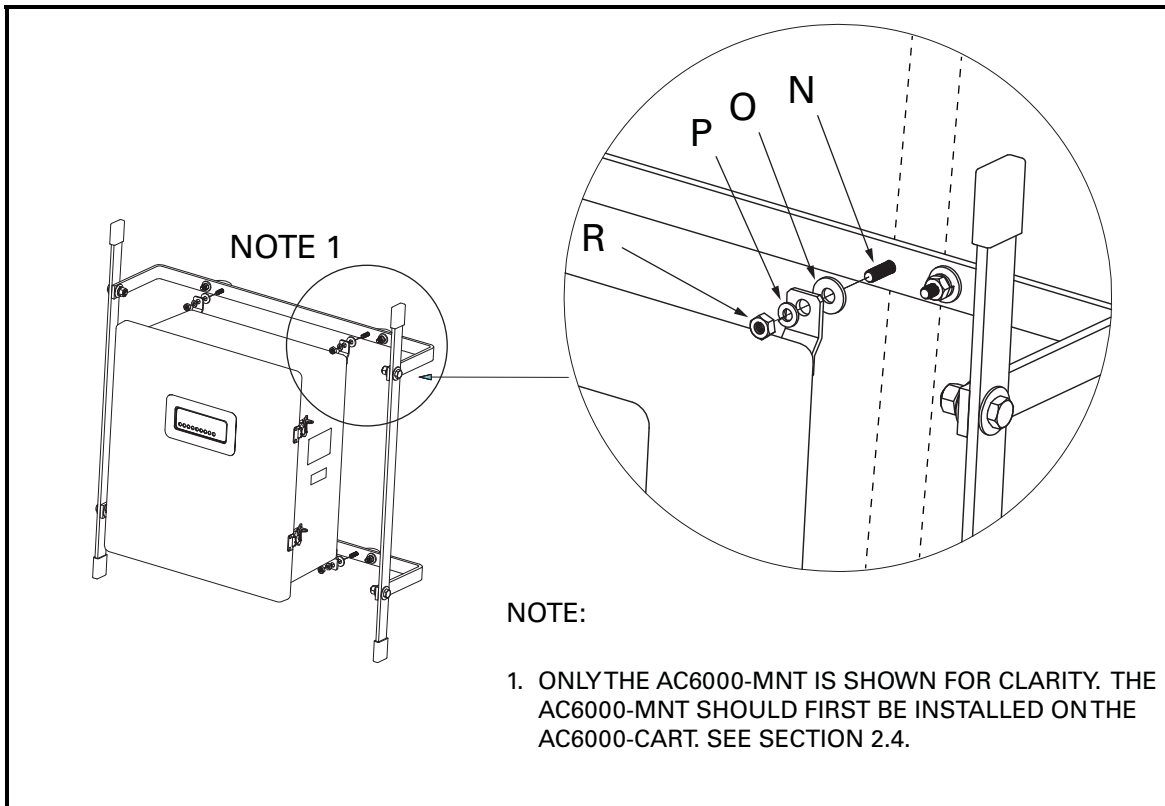

FIGURE 11. SB6100 Mounting.
- Place a flat washer (O) on the inner half of each U-bolt (N).
- Align and place the SB6100 on the four inner bolts and secure in place using split lock washers (P) and hex nuts (R) as shown in Fig. 11.